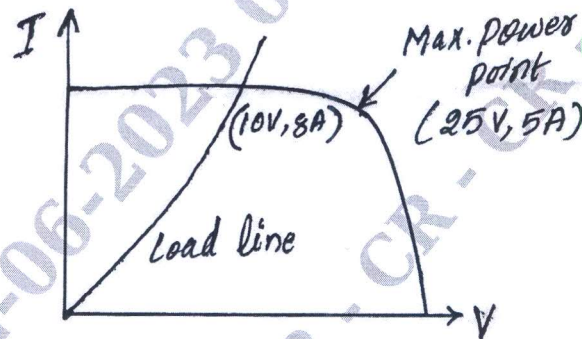

Fig. Q6(c) PV System – Load characteristics.
- c. A PV source having IV characteristics as shown in Fig. Q6(c) is supplying power to a load whose load line intersects the characteristics at (10V, 8A). Determine the additional power gained if an MPPT is interposed between the source and the load. If the cost of the MPPT is Rs 4000.00, for how long the system needs to operate in order to recover the cost of MPPT. The cost of electricity may be assumed as Rs 7.00 per KWh. The efficiency of MPPT may be assumed as 95%. (07 Marks)